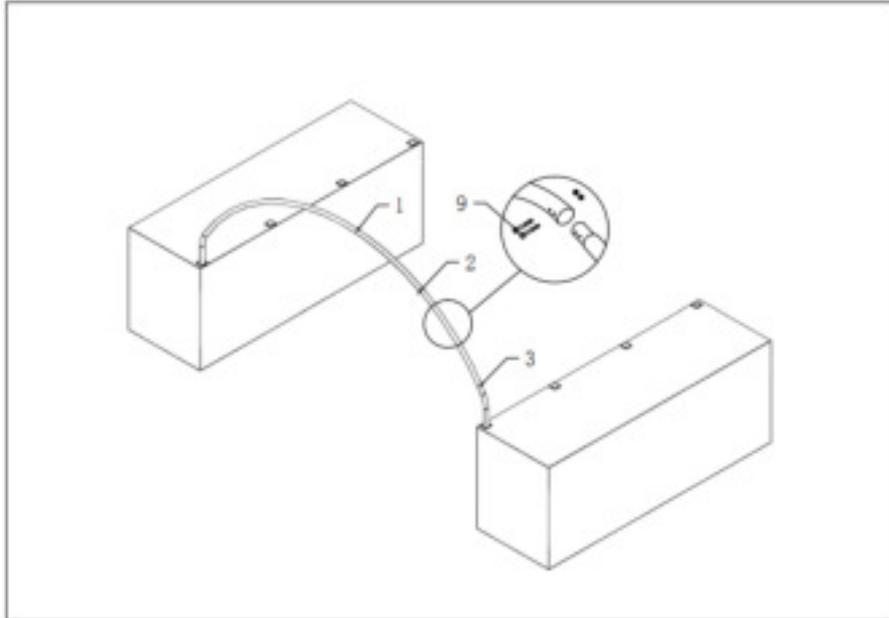

Figure 2
Please refer to the diagram(**Figure 2**) to install the frame.
1. As **Figure 2** shown find Top bent tube (part code 1), Middle bent tube (part code 2) and Sidewall bent tubes (part code 3). To connect them by Screw M8x70 (part code 9) , which makes one group of arches. Please NOTE the direction of the screw. DO NOT install the screws on the top of the truss where the fabric will rest.